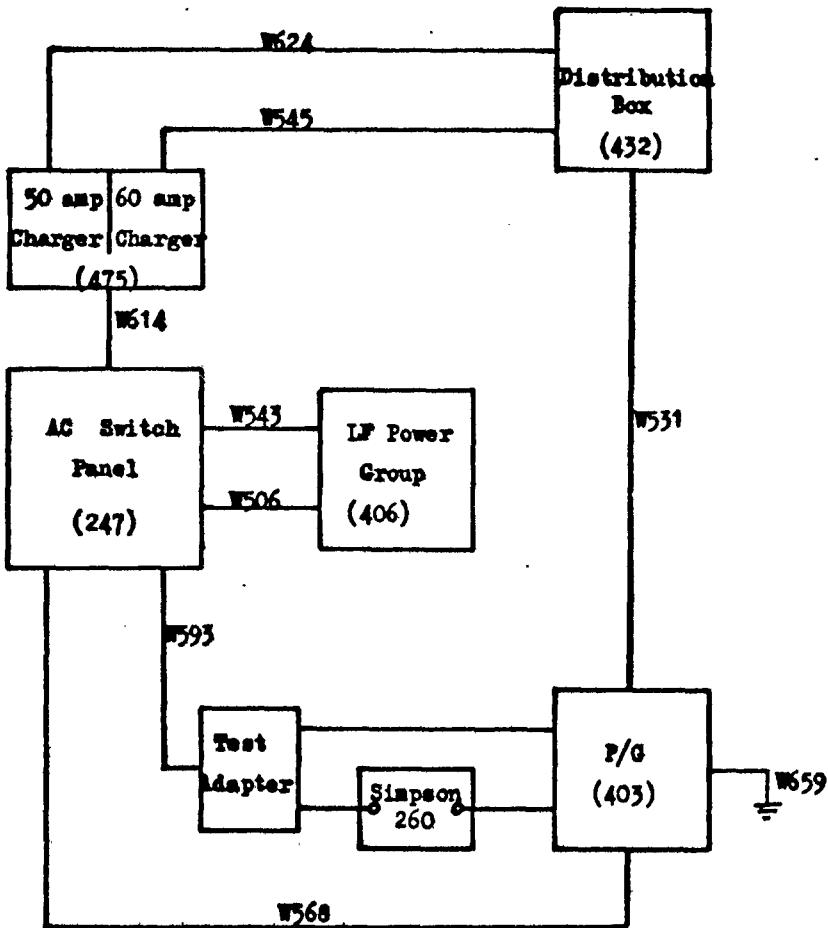

Figure 3.2.1.3-1
- 5.1 LF Instrumentation, Figure 3.2.1.1-2.